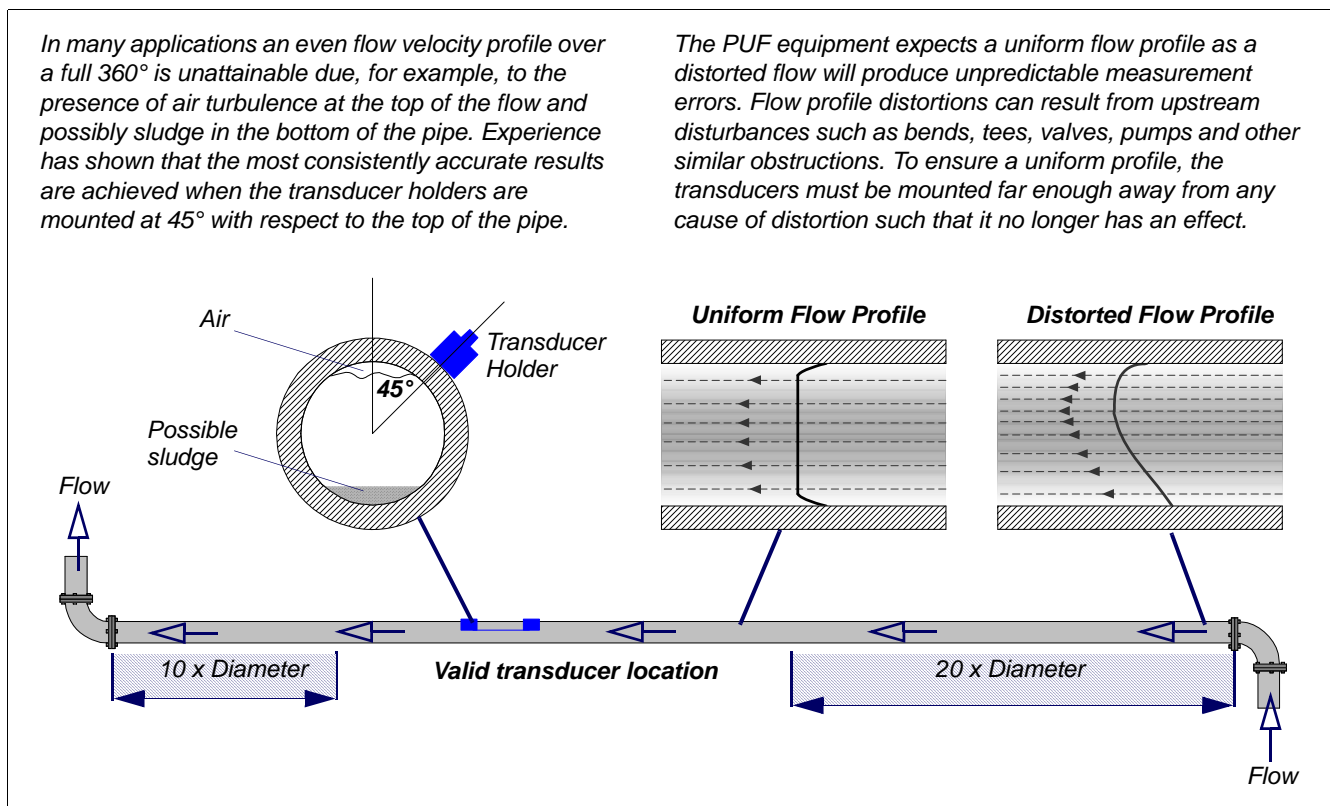

Figure 2.1 Locating the transducers
To obtain the most accurate results, the condition of both the liquid and the pipe wall must be suitable to allow the ultrasound transmission along its predetermined path. It is important also that the liquid flows uniformly within the length of pipe being monitored and that the flow profile is not distorted by any upstream or downstream obstructions. This is best achieved by ensuring there is a straight length of pipe upstream of the transducers of at least 20 times the pipe diameter and 10 times the pipe diameter on the downstream side, as shown in Figure 2.1. Flow measurements can be made on shorter lengths of straight pipe, down to 10 diameters upstream and 5 diameters downstream, but when the transducers are positioned this close to any obstruction the resulting errors can be unpredictable.
1. Before you attach the transducers you should first ensure that the proposed location satisfies the distance requirements shown in Figure 2.1, otherwise the resulting accuracy of the flow readings may be affected.